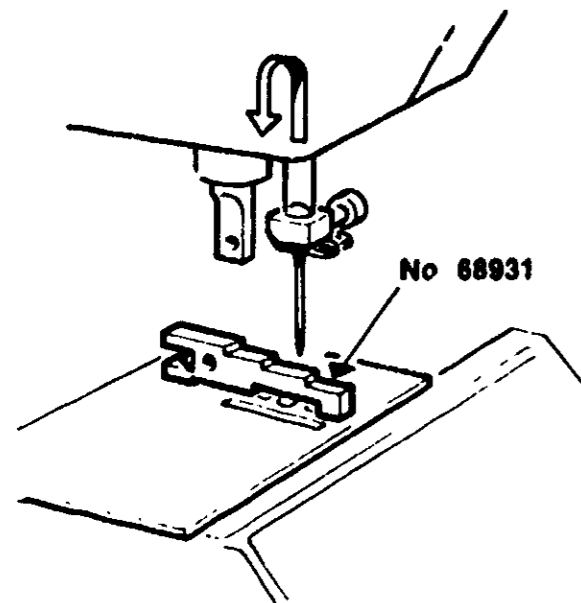

**FIGURE 26**
- If adjustment is needed because needle is not centered front to back in needle hole adjust eccentric in needle plate screw (A) (Figure 26)